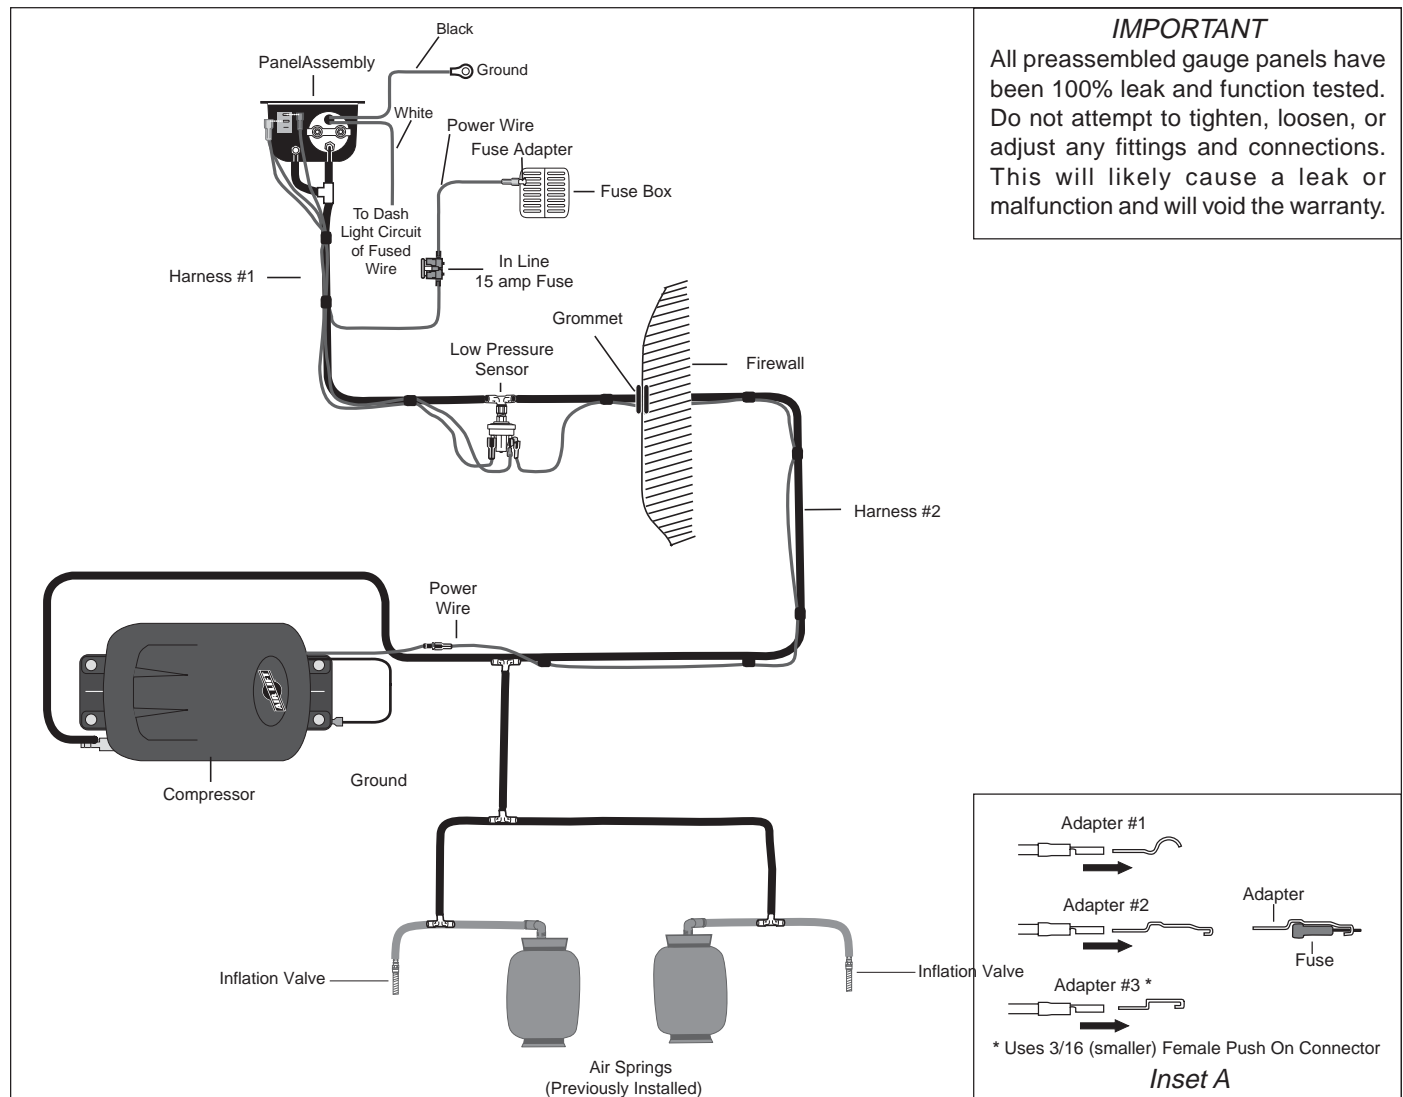

Figure 1
2. Now install the compressor unit. Hold the compressor in the recommended location and attach the mounting brackets to the vehicle with the provided silver self tapping screws. In some cases the mounting area does not provide enough room to use a drill to drive the screws in. It may be necessary to use the mounting brackets as a template to drill $13/64$ " holes through the frame first and then use a $7/16$ " nut driver to install self tapping screws. *NOTE: Attach the ground wire to one of the screws (Figure 1 & 5).*
6. The next connection is between each air spring and the air line "T" fitting located just ahead of the check valve in Harness #2 near the compressor (Figures 1 & 5). With the air springs deflated, use a hose cutter, a razor blade, or very sharp knife to cut the air line already installed between the air spring and the inflation valve. Install the provided "T" fittings in each air line (Figure 1). Push the air line into each leg of the "T" until you feel a definite "click". The line should go in $9/16$ ". Connect a single length of air line to the open leg of each "T". Cut this piece of air line in half and install another "T" fitting. Connect another length of air line to run from this "T" to the "T" already installed in Harness #2. Avoid heat sources, sharp edges and tight bends (Figure 1).
8. GAUGE LIGHT: Route the white wire for the illuminated gauge to harness number one's fused wire or to a dash light wire circuit and attach with the quick splice provided. Ground the black wire to an adequate ground. Use the additional wire and connectors supplied if longer leads are needed (Figure 1).
If the vehicle's headlights are shining into the trees or the vehicle is leaning to one side, then it is not level (fig. 1). Raise the air pressure to correct either of these problems and level the vehicle.